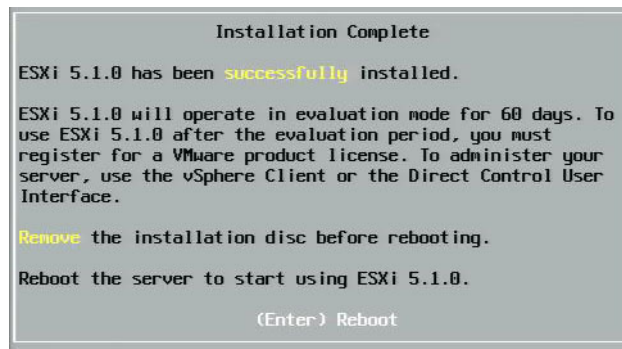

Figure 14-25. ESXi Installation Complete
8. After successful installation (Figure 14-25), press ENTER to reboot.